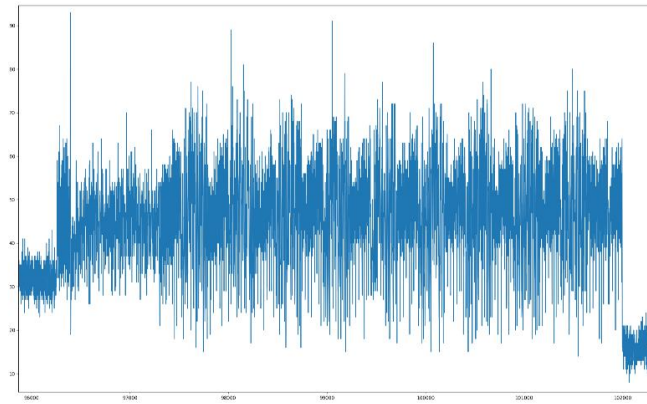

Figure 11: The first SC challenge flag is captured by identifying AES in the emulated power traces.
- 1) The first phase requires sifting through the noise and locating the AES encryption signal. This should be fairly straightforward in Spyder or a similar development environment. *Students will need to save a clear plot of the AES operations and post them in their teams' slack channel with an @organizers message.* An example plot of the emulated AES structure is shown in Figure 11. SC challenge waveforms may look different since noise is added before and after the AES encryptions.